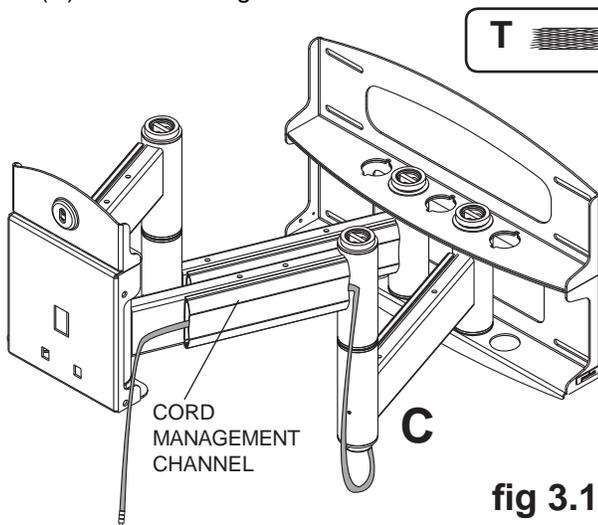

fig 3.1
**2** **Note: There are three mounting positions. The center position is shown right. Arm assemblies must be mounted with one mounting hole separating them.** Slide washers (J) over wall support arm axles (D). Next, insert plastic caps (N) into axles. Then, insert holding pins (M) into axles. See detail 1.
**2-1** Place arm assembly (C) with washers (J) into wall plate (A). Insert axle assemblies shown in detail 1 through wall plate (A), arm assembly (C), and washers (J). Lock axles in place by aligning holding pins (M) with notches shown in detail 2.
**2-2** Insert socket cap screws (K) into hole at bottom of wall support arm axles (D) as shown in detail 3. Tighten screw using 9/64" allen wrench (Q).
**Note:** Fit of axles (D) into wall plate (A) and arm assembly (C) will be tight. Gently tap into place with a hammer if necessary.
**3** **To route cables through cord management channels:** Slide one mesh sleeve (T) over each cable. Use cable ties (S) to tighten mesh sleeves to cables.
**3-1** Pull cords through cord management channels, leaving enough slack to allow full range of movement for swing arm assembly (C) as shown in figure 3.1.